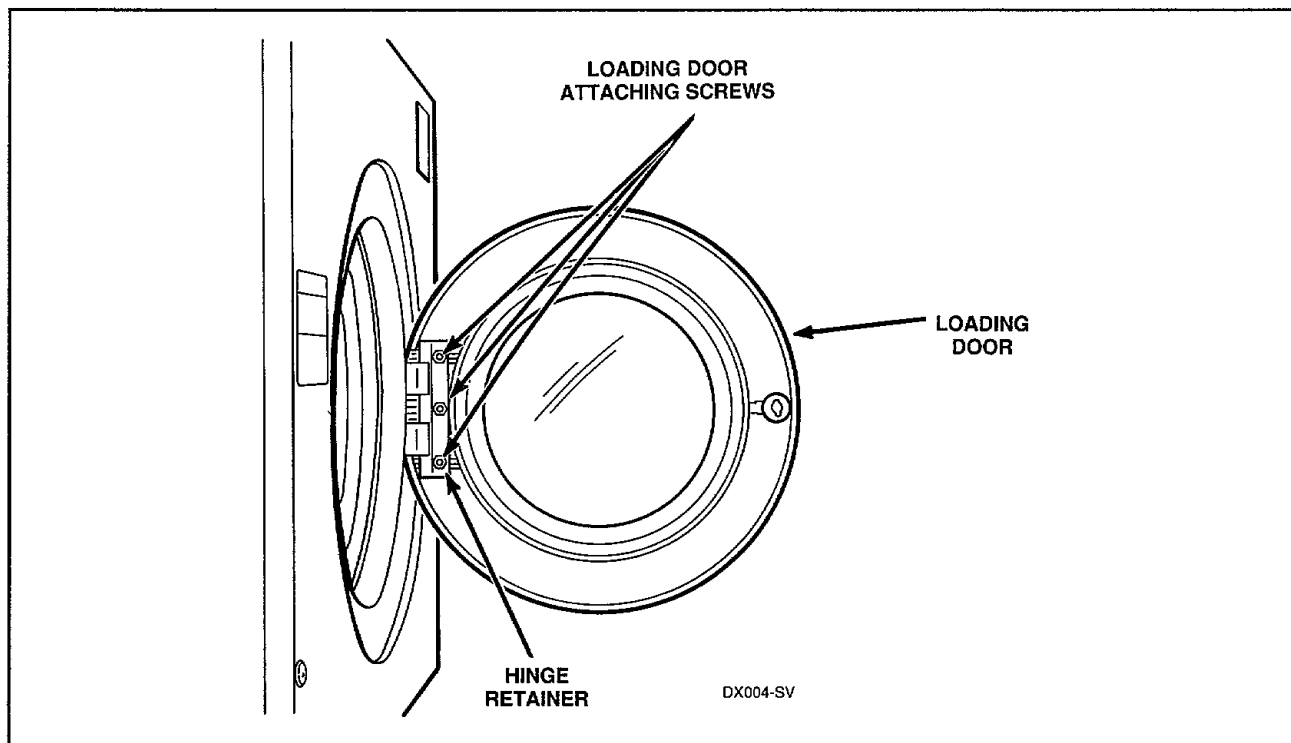

Figure 3
- b. While supporting the loading door, remove the three screws and lockwashers holding loading door to hinge retainer and remove door, *Figure 3*.
- a. While supporting the loading door, remove the three screws and lockwashers holding the loading door to the hinge retainer and remove door, *Figure 3*.
- b. While supporting loading door, remove three screws and lockwashers holding loading door to the hinge retainer and remove door, *Figure 3*.